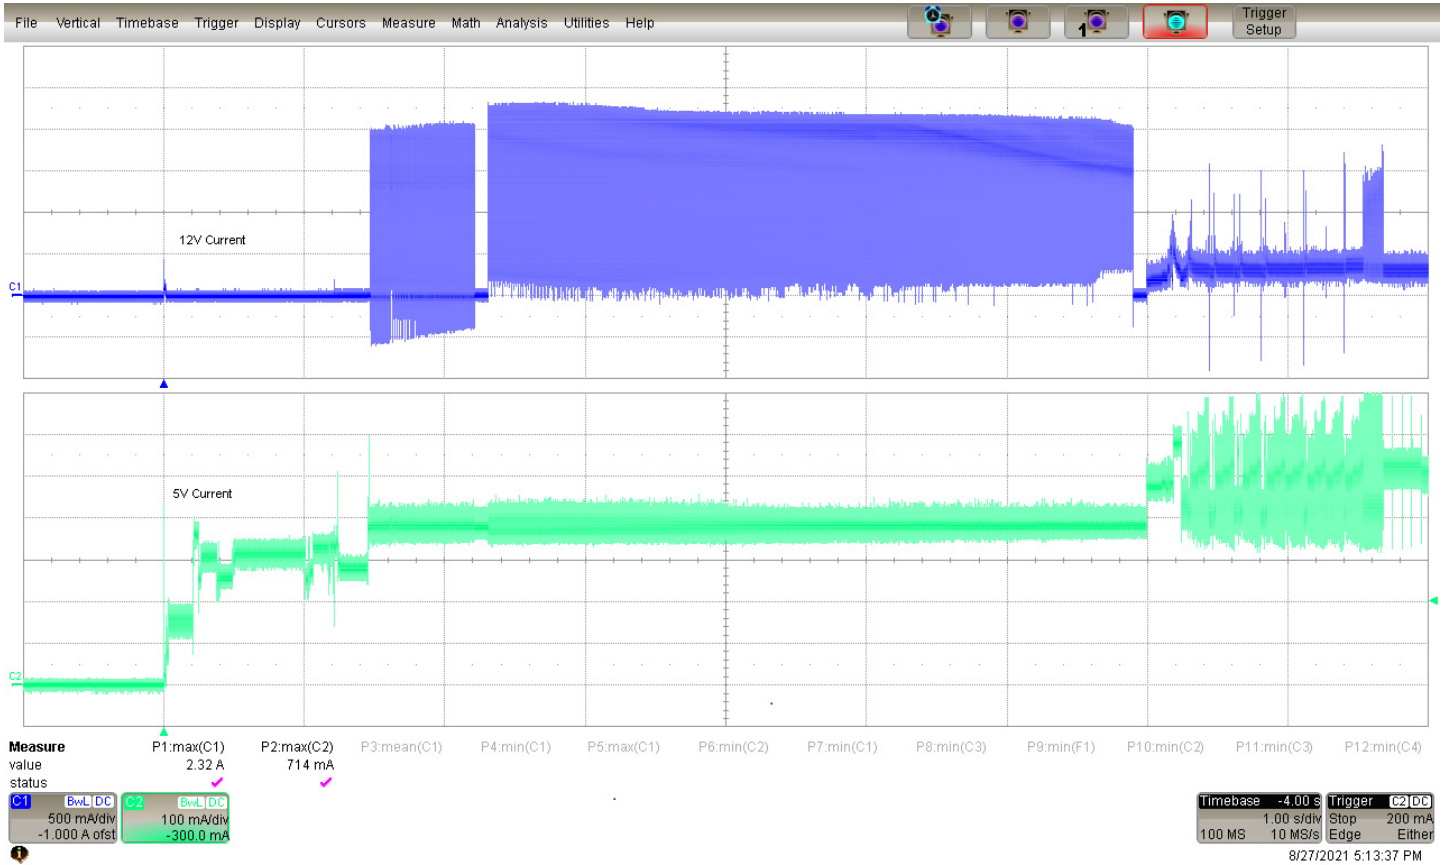

Figure 1. Exos X20 current profiles.
- [3] See +12V current profile in Figure 1.